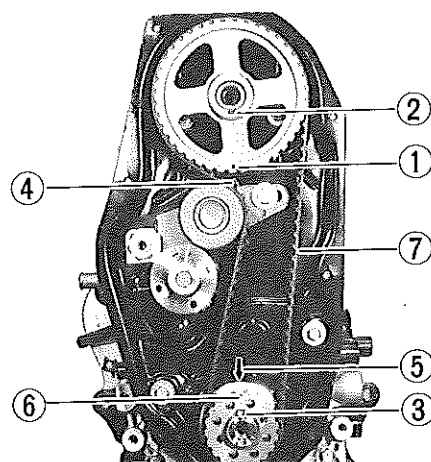

Fig. 4-140
- 4) You now have the two pulleys correctly related to each other in angular sense. Under this condition, put on the timing belt in such a way that portion of belt indicated as ⑦ is free of any slack.
- 5) After putting the belt, hook the spring on the bracket as shown in Fig. 4-140. The spring, with its own tension, adjust the belt tension to the specified value. Rotate the crankshaft clockwise fully twice and tighten the bolt and the nut to the specified torque.